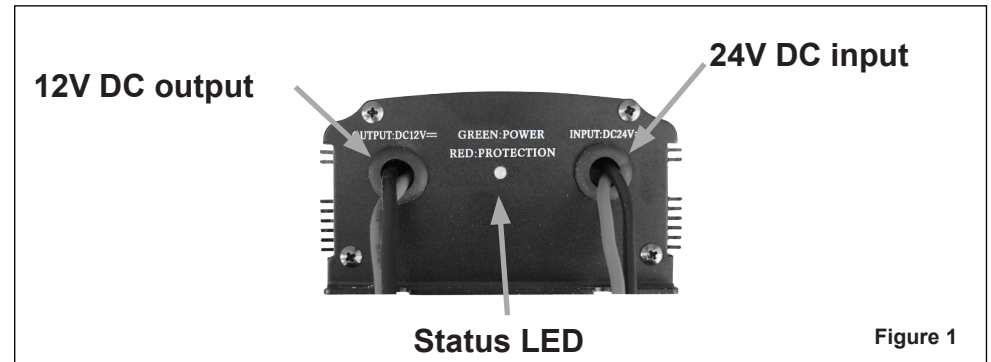

Figure 1
- Referring to Figure 1 on page 6, locate the red (+) and black (-) wires of the 24V DC input of the converter. First connect the black wire to the negative (-) pole of the battery, then connect the red wire to the positive (+) pole of the battery. If there are no malfunctions, the status LED will be on and green. In case of malfunctions the LED will be off or it will be on and red.
- Referring to Figure 1 on page 6, locate the red (+) and black (-) wires of the 12V DC output of the converter. First connect the black wire (-) and then the red wire (+) to the device to be powered, paying attention to the polarity.